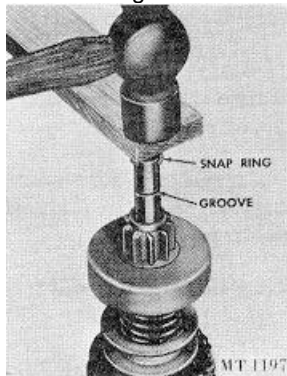

Fig. 13 Installing Snap Ring
- b. Place the snap ring on the end of the shaft. With a piece of wood on top of ring, force the ring over the shaft with a light hammer blow, Fig. 13. Then slide the ring down into the groove.